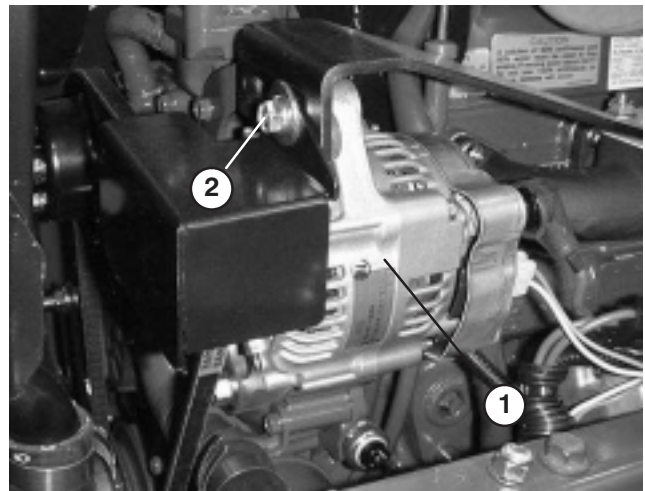

Figure 44
2. Proper tension will allow 3/8 in. (10 mm) deflection when a force of 10 lbs. is applied on the belt (Fig. 44) midway between the pulleys.